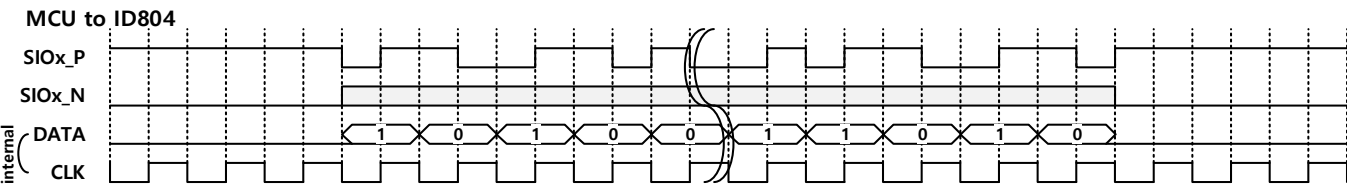

Fig 11. Example of MCU to ID804 communication
When the supply voltage is connected and VDD increases above the V_{POR} level, or the RESET command is received, the ID804 undergoes the following startup sequence (Fig 11. Startup behavior of the ID804. The example shows the MCU and EOL modes. After a RESET command, the device starts in the POR state.)
- 1. All registers are initialized to their default value (POR in Fig 11).
- 3. Voltage levels at SIOx pins detect communication modes (shaded signals in Fig 11).
- 4. The ID804 enters the UNINIT mode and is now ready to receive the first command (UNINIT in Fig 11).